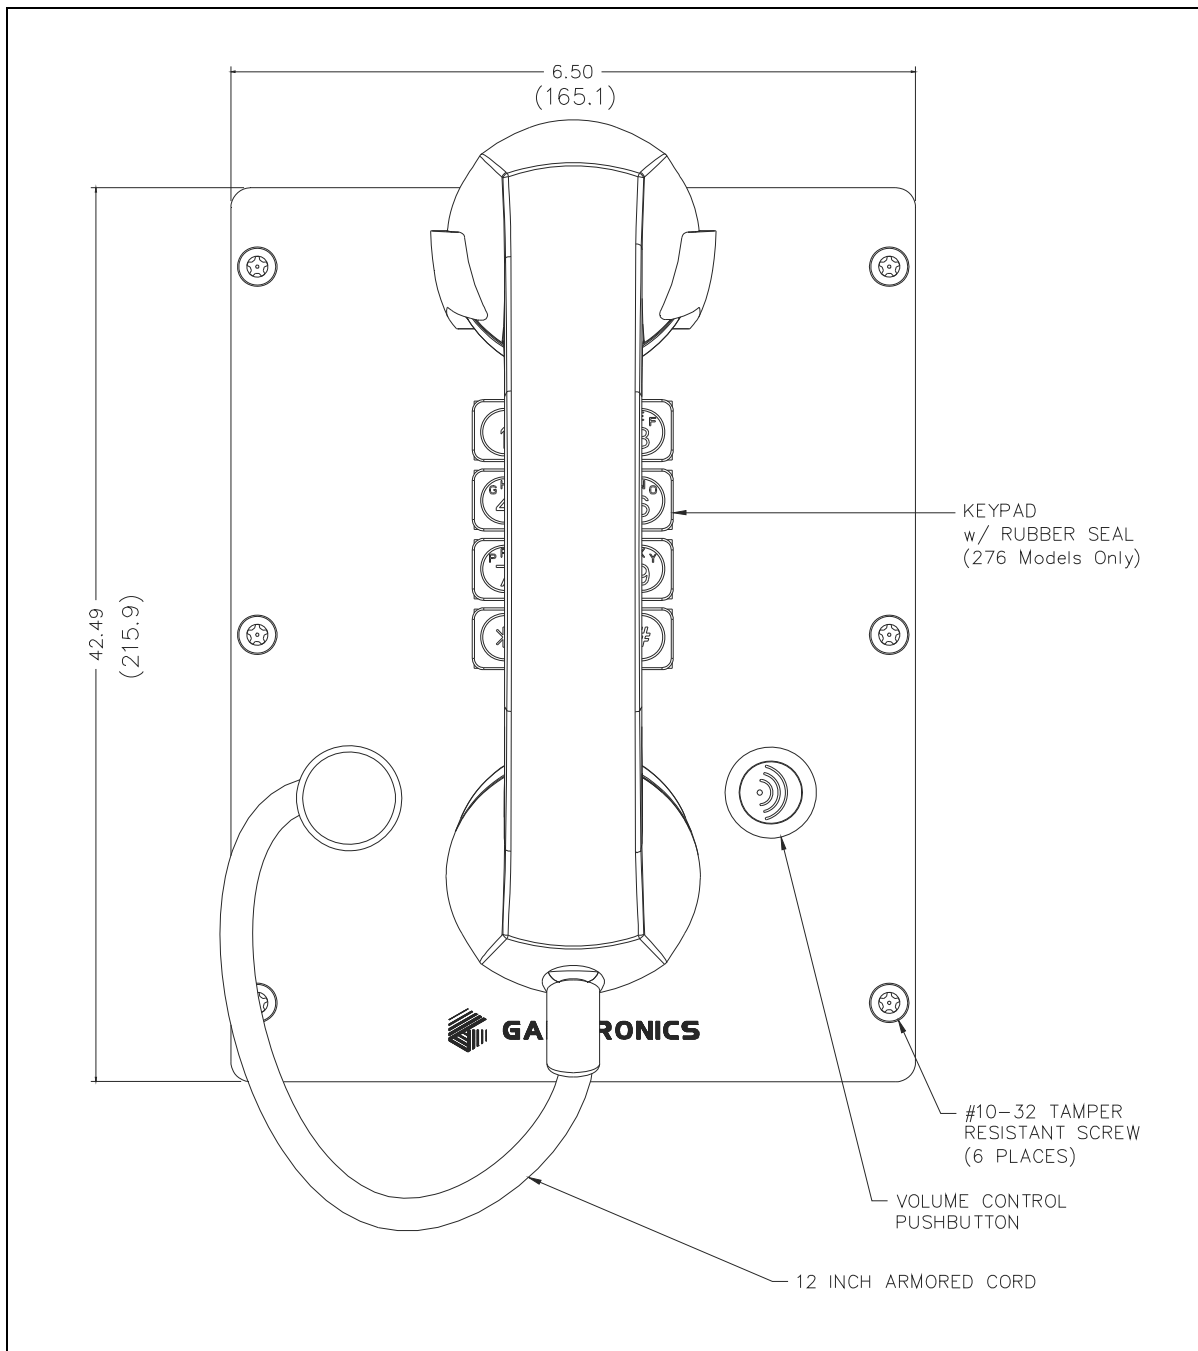

Figure 4. 276-x0xBH Series Telephone Front Cover Removal
1. Remove the six tamper-resistant front cover screws securing the phone to the wall or enclosure. Retain the screws for reassembly (See Figure 4).
1. Thread the blue and white reed-switch leads through the top center hole on the front cover assembly (See Figure 4).